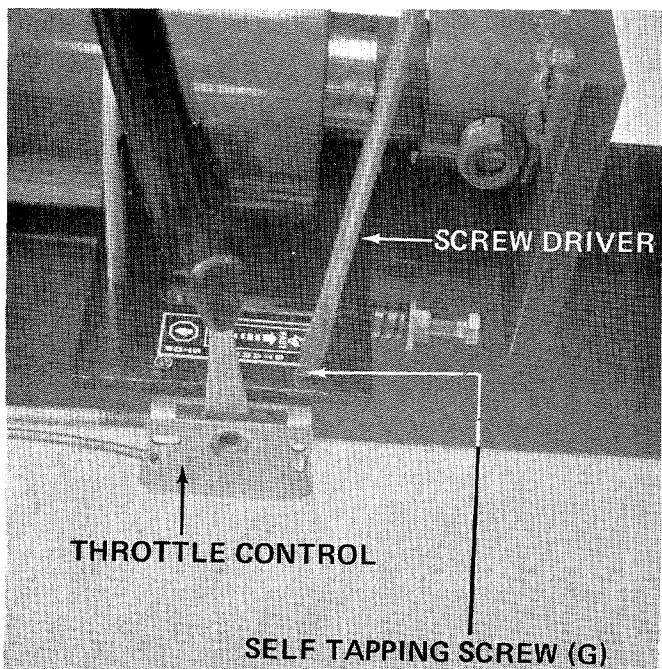

FIGURE 14
- 14: Place the throttle control in position on beam assembly and secure with two self tapping screws (G). A standard screw driver is required. See figure 14.